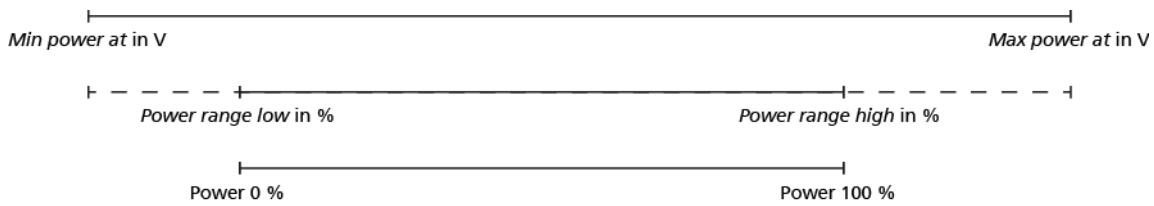

Figure 9.3: Voltage to percentage mapping for power
InScript maps the voltage to a percentage; see also figure 9.3 on page 115 .
3. In Power range low and Power range high, you can restrict the percentage to a range that is mapped to a range from 0 to 100 % again; see also figure 9.3 on page 115 . The latter percentage is used when setting